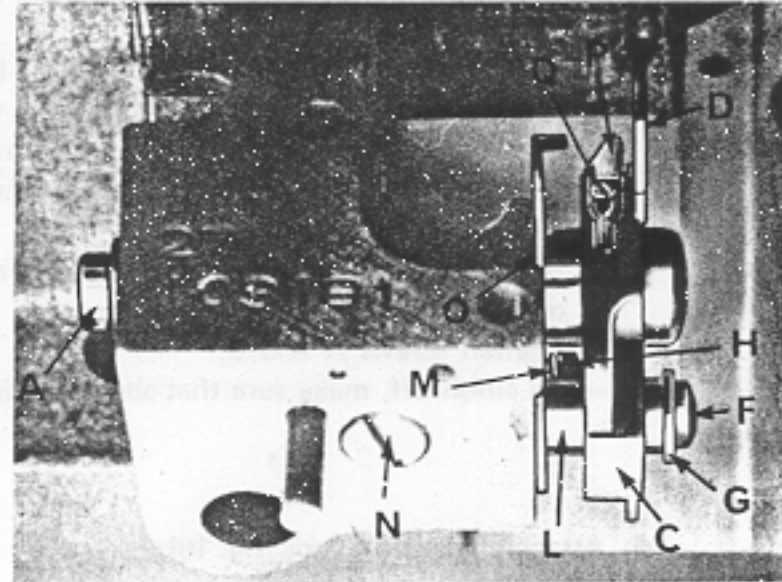

fig.11
7. Fitting the lower knife (fig. 11).